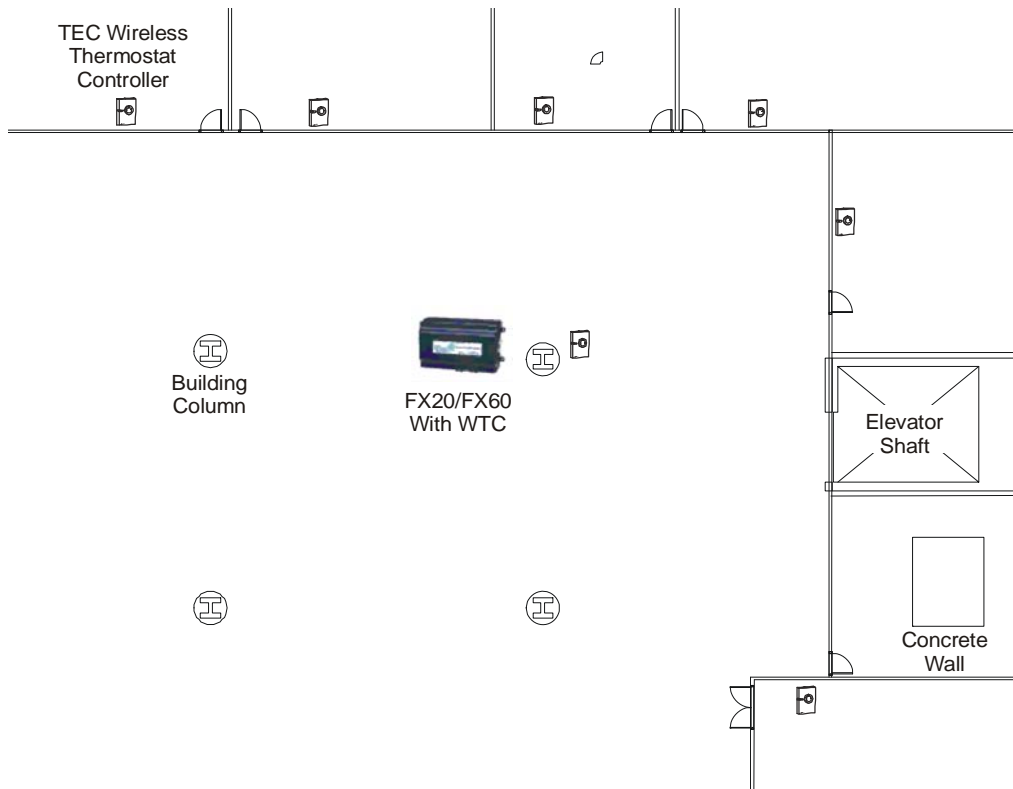

Figure 3: Building Floor Plan with TEC Wireless Thermostat Controller System
1. From the floor plan, locate the intended locations of all the TEC wireless thermostat controllers. See Figure 3.
2. Highlight all of the obstructions on the building floor plans; for example, elevator shafts, metal equipment, equipment rooms, concrete block walls, and duct work. See Figure 3.